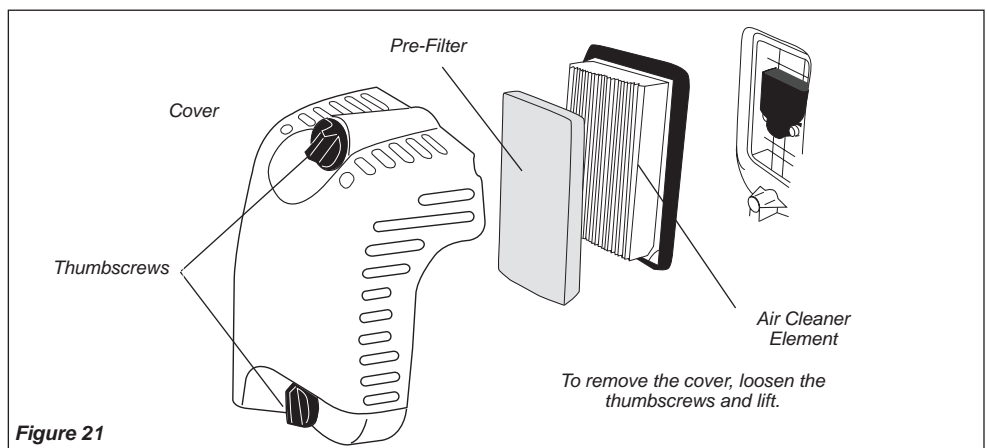

Figure 21
1. Remove the air cleaner cover by loosening the thumbscrews and lifting. See Figure 21.